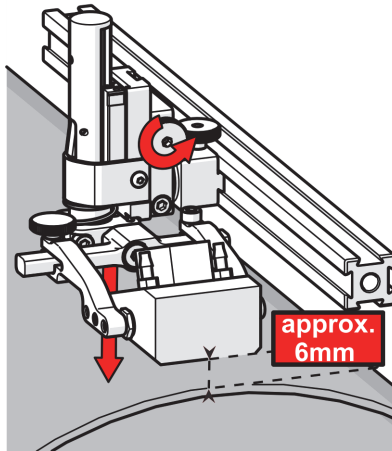

Figure 2-78 Lower toward scan surface
3. Tighten the vertical adjustment knob (see Figure 2-78 on page 99).